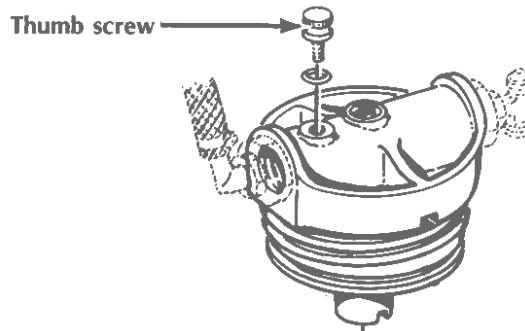

Figure 3—TRI-PACK SYSTEM
2. Relieve water pressure within the IMF by **SLIGHTLY** unscrewing thumb screw of the pressure relief valve located on top of the filter head. (Figure 3)